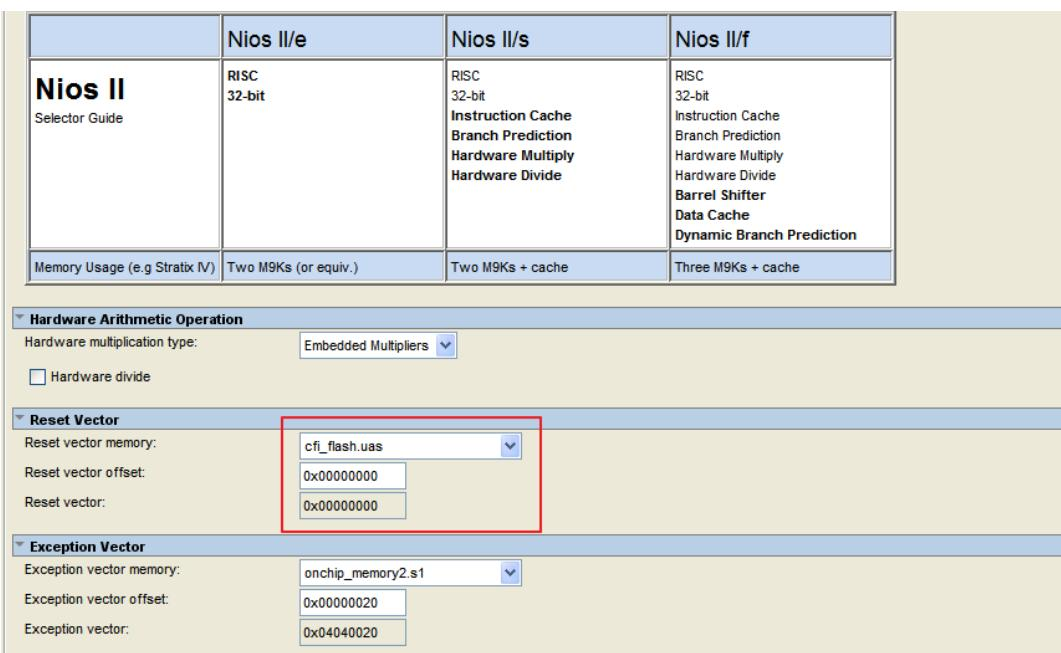

Figure 3-20 Update CPU settings
14. Click **nios2\_qsys** in the component list on the right part to edit the component. Change **Reset vector** to **cfi\_flash** as shown in Figure 3-20. Then click **Finish** to return to the window.